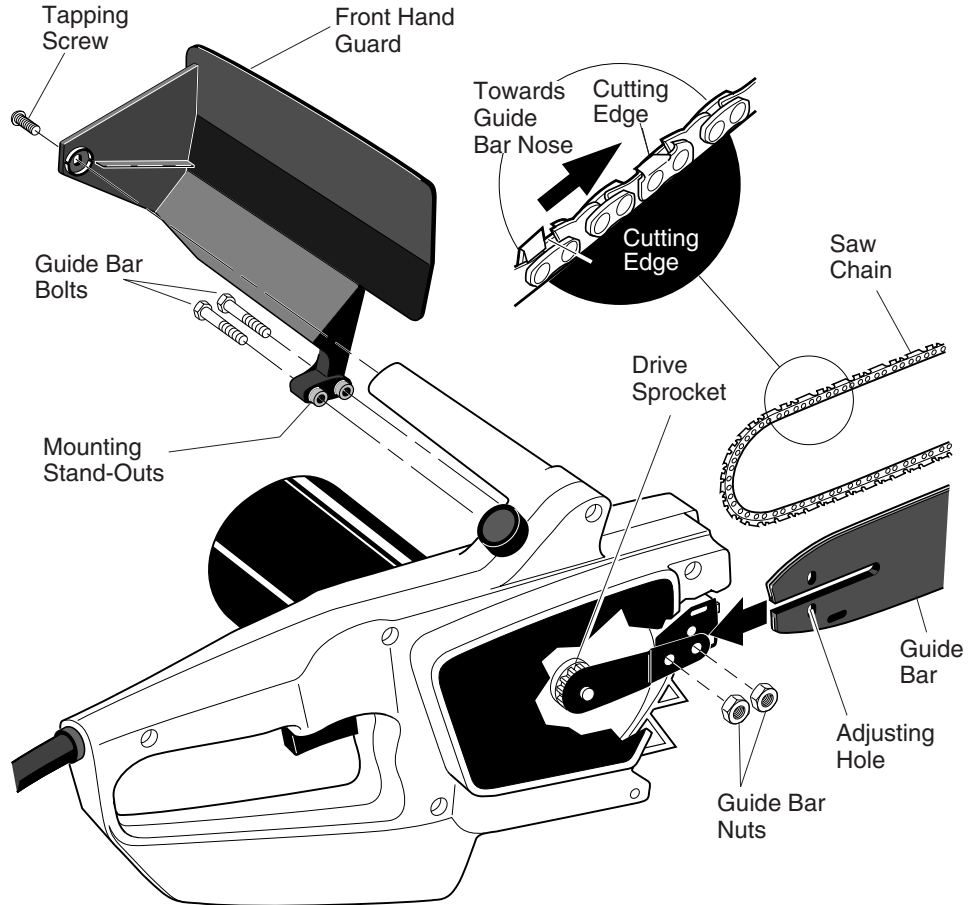

Figure 3 - Assembling Guide Bar, Chain, and Hand Guard
2. Install front hand guard onto saw body. Do this by pressing two mounting stand-outs on hand guard into hex-shaped holes in saw body (see Figure 3).
8. Place chain around drive sprocket, then along top groove of guide bar and around guide bar nose. **Note:** Make sure cutting edges of chain are facing the right direction. Position chain so cutting edges on top of guide bar face guide bar nose (see Figure 3).